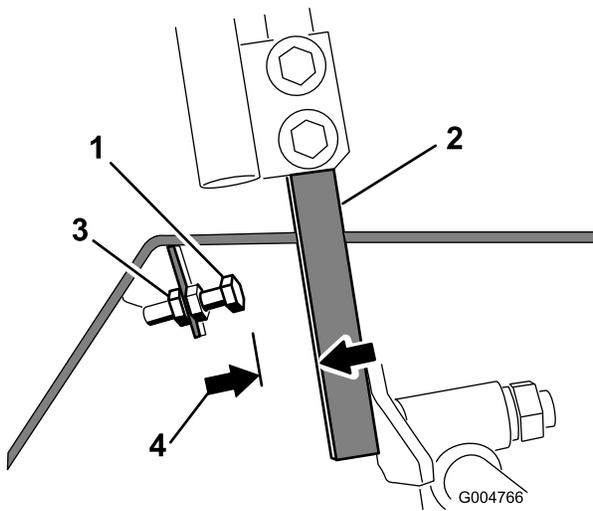

Figure 60
4. Loosen the jam nut on the stop bolt for one of the control levers (Figure 60).